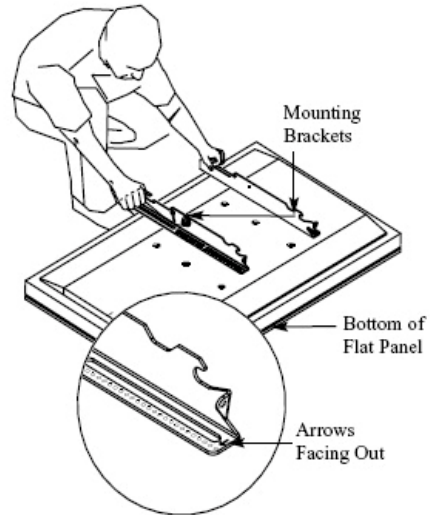

Figure 7
4. Lay the mounting brackets (stamped arrows facing out) over the mounting points (Figure 7).